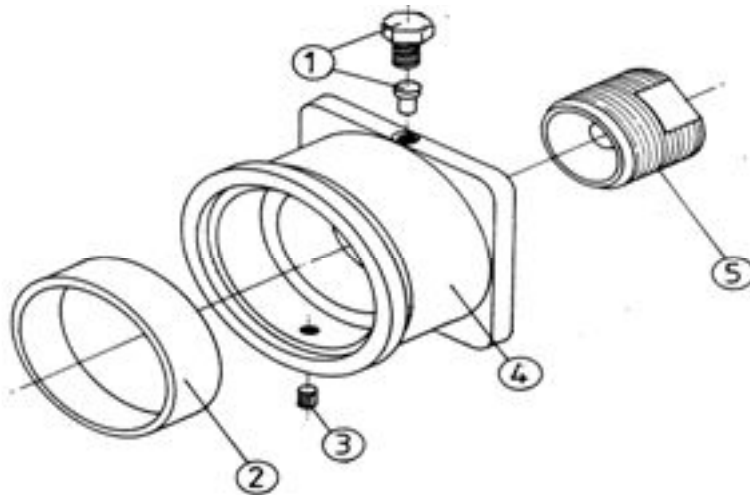
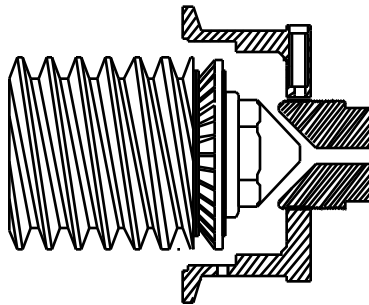

Figure 4.1 Barrel end piece and nozzle assembly
Figure 4.2 *Internal configuration of BARREL END SECTION and NOZZLE PIECE assembly*
The barrel head assembly used for this type of application appears relatively simple, consisting of a single NOZZLE through which the product is forced. Figure 4.1 shows the BARREL END SECTION assembly. The internal configuration of the NOZZLE and BARREL END SECTION assembly is however slightly more complex than appears. The inside of the NOZZLE PIECE is in fact a conical hollow that corresponds to the conical shape of the CONICAL NOSE BULLET (refer to figure 4.2). The gap between these male and female components presents a restriction to product flow as it is forced through the NOZZLE. The extent to which the product temperature is increased at this point, can be controlled by adjusting this gap. Adjustment is performed by screwing the NOZZLE PIECE further into, or out of the BARREL END SECTION.
4. Wind the NOZZLE PIECE back away from the NOSE BULLET a total of six turns then lock in place by tightening the NOZZLE PIECE RETAINING BOLT/PLUG (refer to figure 4.1).